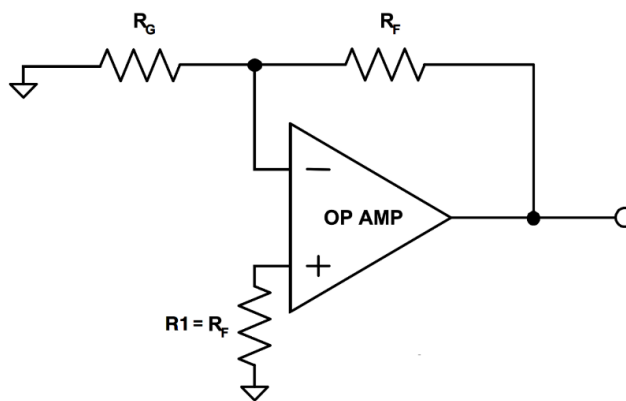

Figure 1. Circuit Configuration of Each Channel
See Figure 1 for the circuit configuration of each channel; the resistor values are set as follows: (1) $R_F = 1M\Omega$ and $R_G = 1k\Omega$ for Channel A; and (2) $R_F = 10k\Omega$ and $R_G = 10\Omega$ for Channel B.